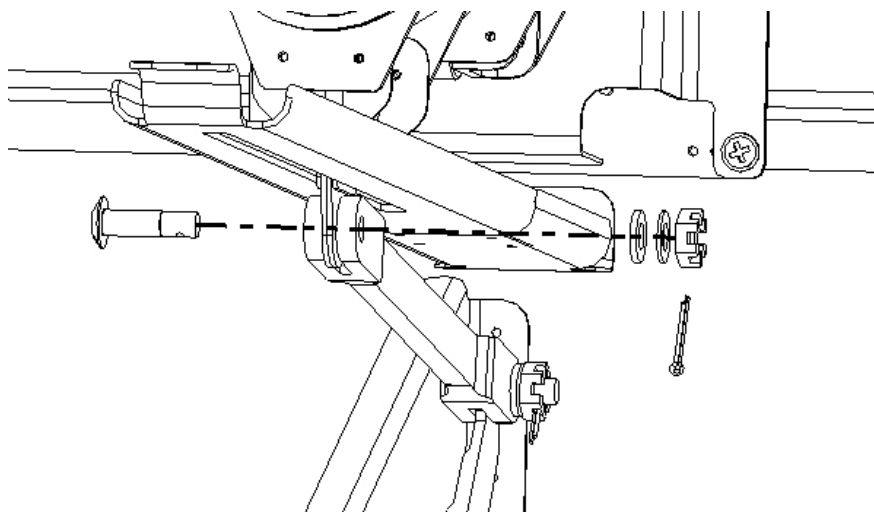

Figure 5-2: Detach Control Column Elevator Link
3. Remove the cotter pin; remove and retain the bolt, nut, and two (2) washers securing the bearing assembly to the control column elevator link. Discard the cotter pin. See **Figure 5-2**.